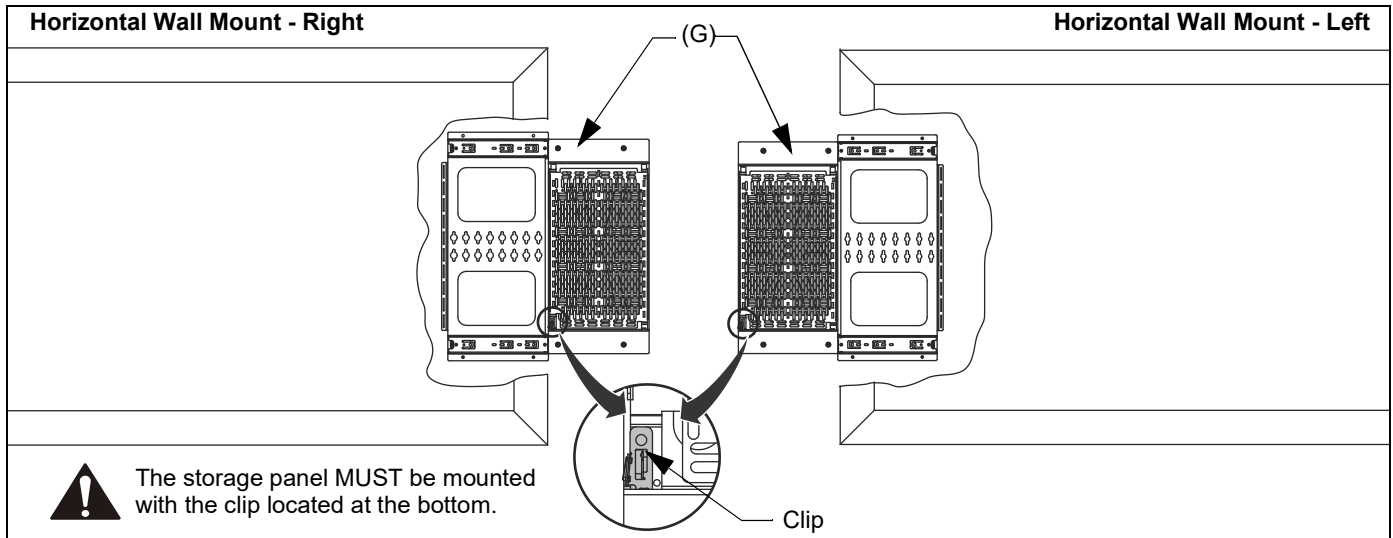
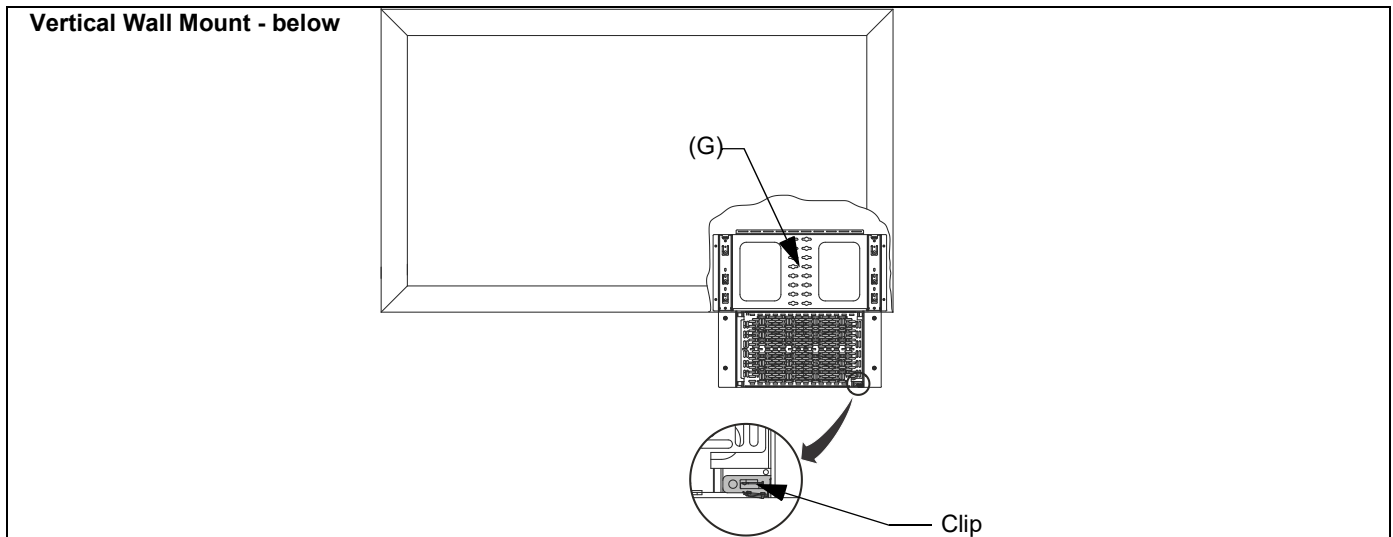
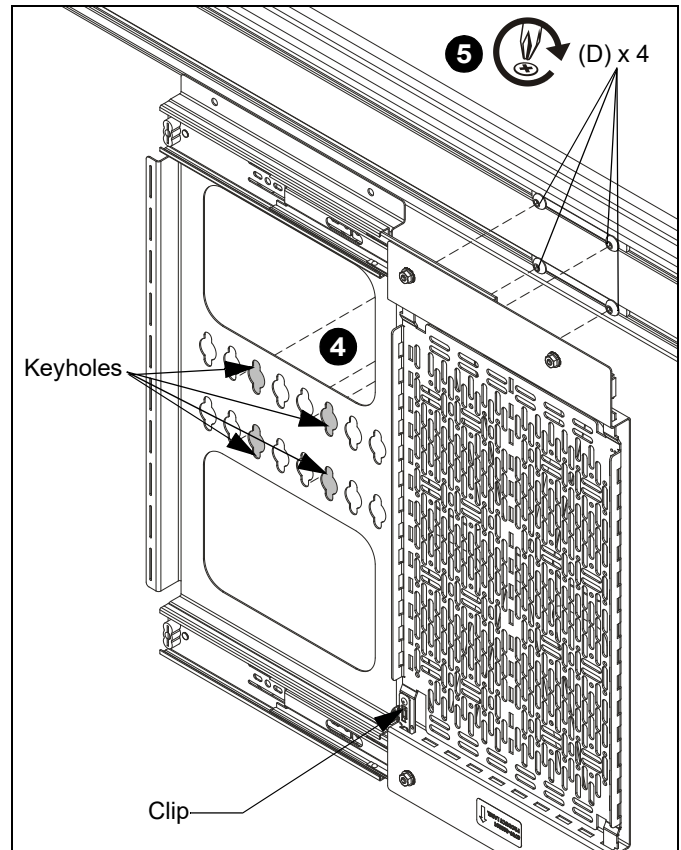

Figure 1
Figure 2
Figure 6
**NOTE:** The storage panel (G) may be installed directly on the wall in one of two horizontal positions or vertically below the display. (See Figure 1) or (See Figure 2)
**CAUTION:** The storage panel must be mounted with the clip at the bottom. (See Figure 1)
**CAUTION:** The storage panel must be mounted with the clip at the bottom. (See Figure 1) and (See Figure 6)
4. Hold the storage panel (G) over the four button head screws (D) and lower the storage panel keyholes over the screws. (See Figure 6)